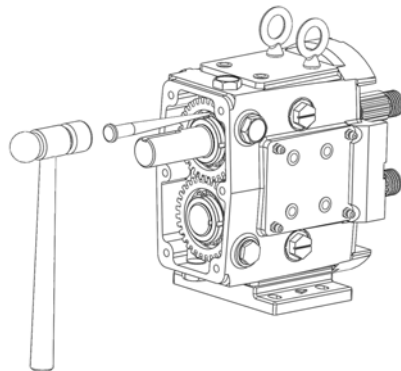

Figure 43: Bending Tabs on Lock Washers
2) Using a hammer and a punch, bend the tabs straight on the lock washers (Figure 43). Use a wedge (wood or plastic) to keep the shafts from turning while removing the lock nuts (Figure 44). Using a spanner wrench or the nut removal tool (available from Q-Pumps), remove the gear lock nuts. Slowly remove the gears from the shafts. Remove the gear keys and gear spacers from the shafts.